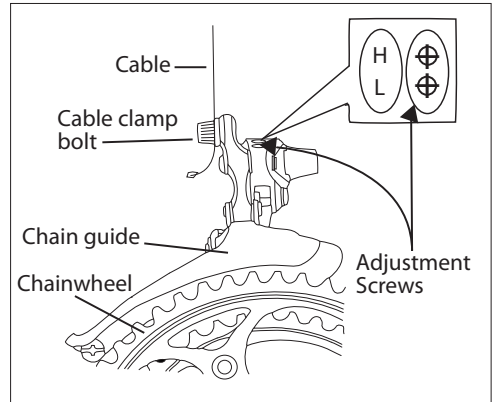

Fig. 32: Front Derailleur Adjustments
2. Cable tension is adjusted by turning the Cable Adjusting Barrel, which is located at the junction of the cable and the shifter or rear derailleur (Fig. 32). To increase tension turn the knurled knob counterclockwise, to decrease tension, turn the knob clockwise. Turn until problem is corrected.
4. Turn the low-gear adjustment-screw (L in Fig. 32) until the inner chain-guide of the derailleur is approximately .5mm from the chain.
5. Put the cable in the groove found near the derailleur-cable-clamp bolt (Fig. 32), pull the cable tight, and tighten the clamp bolt to 44-60 lb•in (5.0-6.8 N•m).